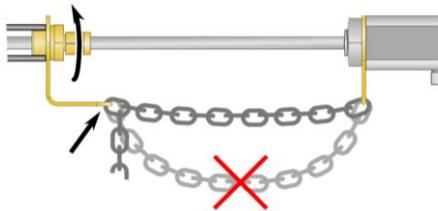

Figure 4: Safety chain installation
- Make sure to close the safety chain before pressure is applied. The chain lock must be hung up in a way to avoid sagging of the chain (see Figure 4).